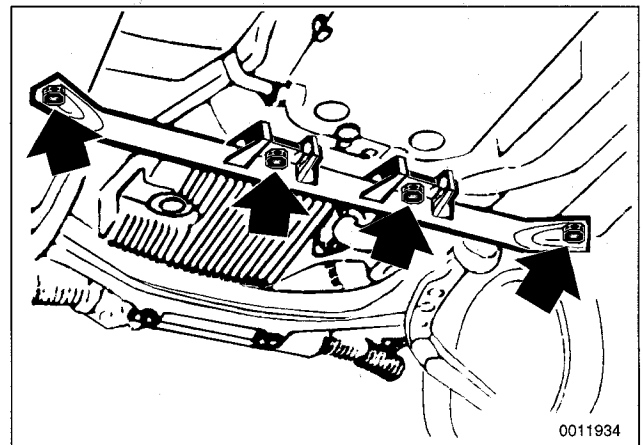

Fig. 5. Cross brace mounting bolts (arrows).
4. Where applicable, remove support brace from transmission. See Fig. 5.